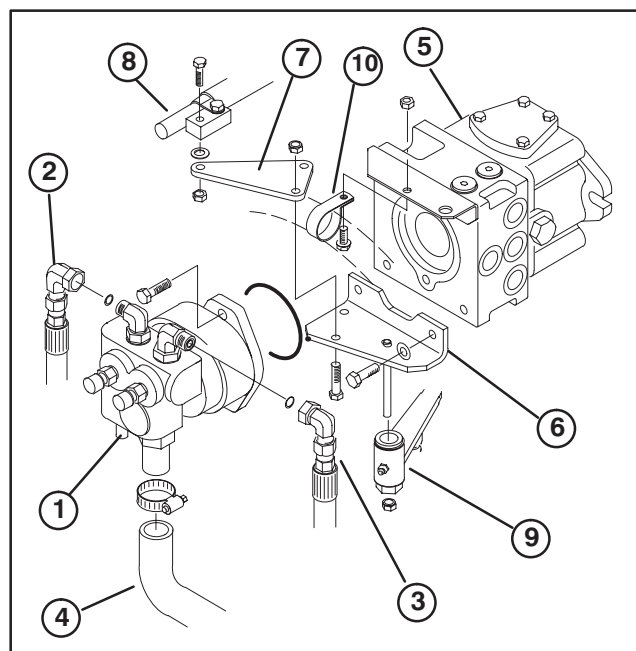
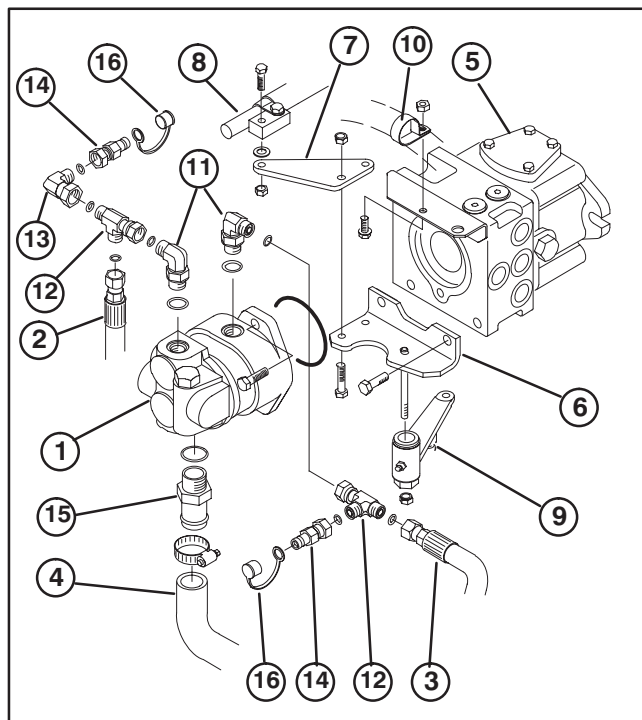

Figure 1
Figure 2
4. Disconnect steering, lift and suction hoses from gear pump (Fig. 1).
6. Remove capscrews securing gear pump to traction pump (Fig. 1). Discard pump but retain fasteners.
7. Remove capscrew and nut securing damper pivot to pivot plate (Fig. 1). Retain fasteners.
8. Remove nut securing neutral switch arm assembly to bottom of neutral bracket (Fig. 1).
9. Remove capscrews securing neutral bracket to traction pump. Remove neutral bracket from traction pump and neutral switch arm assembly (Fig. 1).
10. Remove capscrew and nut securing R-clamp and hose to underside of seat rod bracket (Fig. 1). Remove clamp from hose, rotate clamp upward, reinstall on hose and secure to top of bracket with capscrew and nut removed (Fig. 2).
11. Install new pivot plate to new neutral bracket with fasteners previously removed (Fig. 2).
12. Install neutral bracket to traction pump and neutral switch arm assembly with fasteners previously removed (Fig. 2).
13. Secure damper pivot to pivot plate with fasteners previously removed (Fig. 2).
14. Install (2) new 90° fittings and new barb fitting to new gear pump. Position fittings as shown in figure 2.
15. Install new gear pump w/fittings to traction pump with fasteners previously removed (Fig. 2).
16. Connect suction hose to barb fitting on bottom of gear pump (Fig. 2). Secure hose to fitting with hose clamp.
17. Connect a Tee fitting, 90° fitting and diagnostic fitting to front 90° fitting on gear pump. Position fittings as shown in figure 2.
18. Connect steering hose to Tee fitting (Fig. 2).
19. Connect a Tee fitting and diagnostic fitting to rear 90° fitting on gear pump. Position fittings as shown in figure 2.
20. Connect new lift hose to Tee fitting and lift valve (Fig. 2).
21. Install plastic caps on diagnostic fittings (Fig. 2).